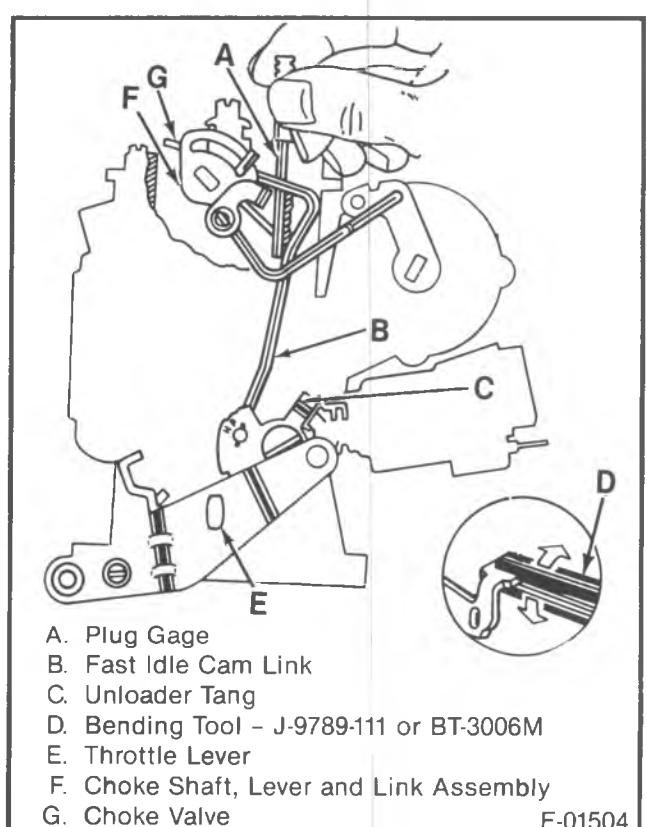

Figure 43 - Unloader Adjustment
Adjust (Figures 43, 44)
- If adjustment is needed, bend the unloader tang on throttle lever as shown in inset of Figure 43